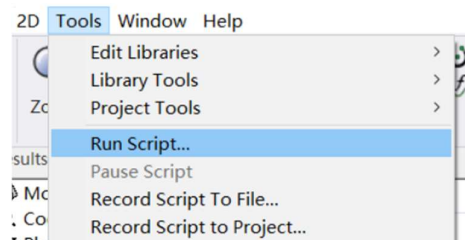

Fig. 6
4. Run the script in “Tools > Run script” (Fig. 6). The excitation will automatically be arranged.